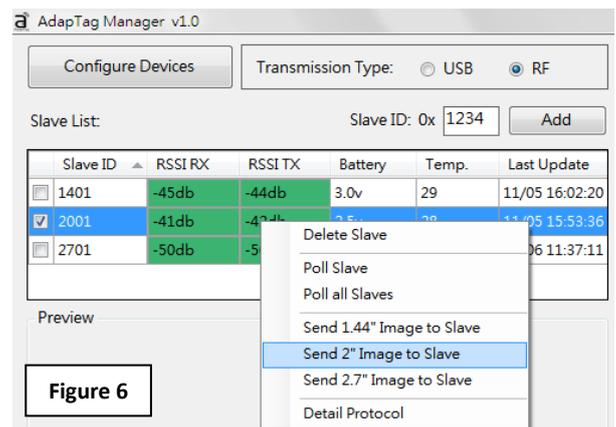

Figure 6
5. On AdapTag Manager, select "RF" for Transmission Type. Click the check box for the selected slave in the Slave list. Right-click and select the appropriate [Send ##" Image to Slave] and browse to the selected image (See Figure 6). The image selected must match the panel size. Confirm the images are correctly displayed on the e-Paper displays and you are done!